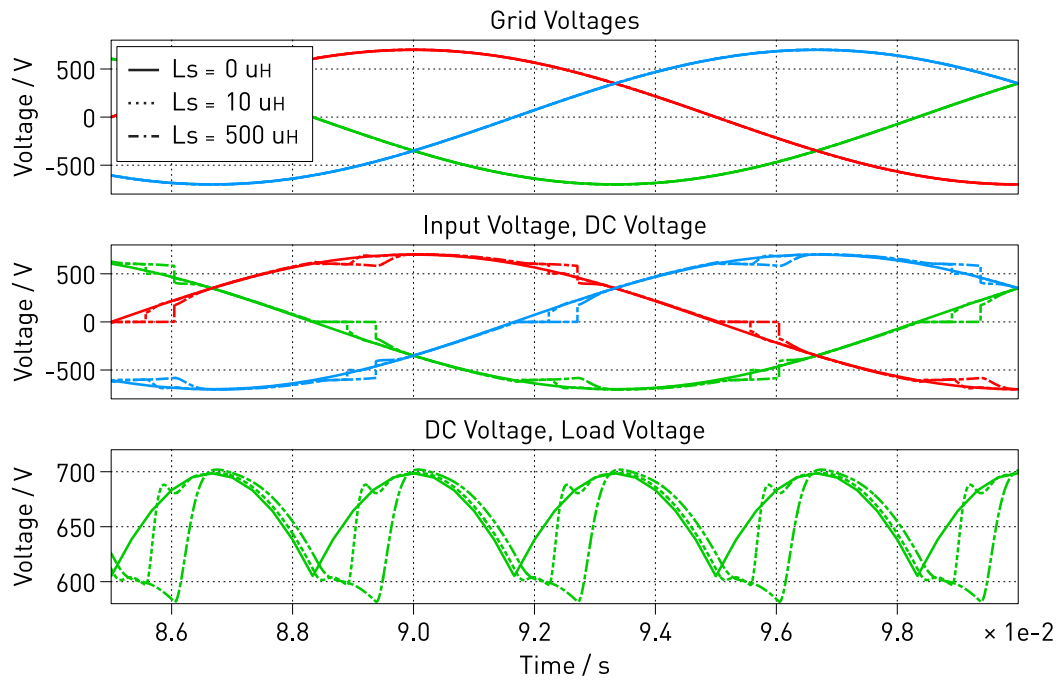

Figure 2: Results of the simulation showing the commutation interval for a finite line inductance
- Run a simulation with the default line inductance $L_s = 100 \mu\text{H}$ and observe the commutation interval in the rectifier input voltage. During the commutation interval the rectifier input voltage stays zero which leads to a lower average V_{dc} . This can be seen in Fig. 2 that shows the different system quantities for line inductance values of $L_s = \{0, 30, 100\} \mu\text{H}$.